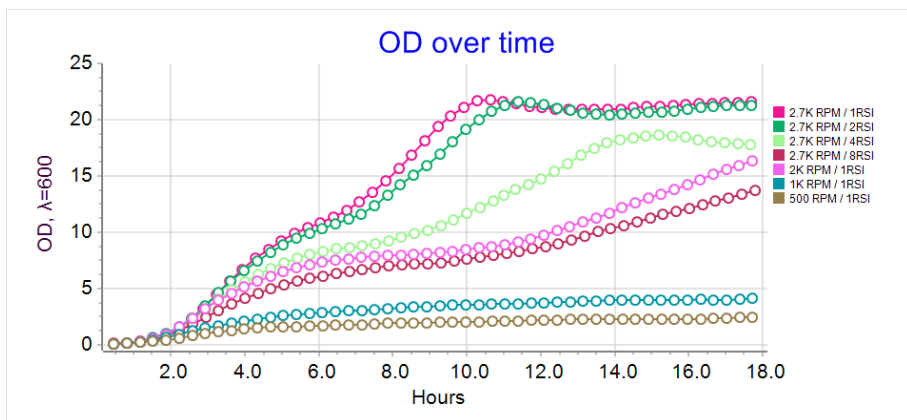
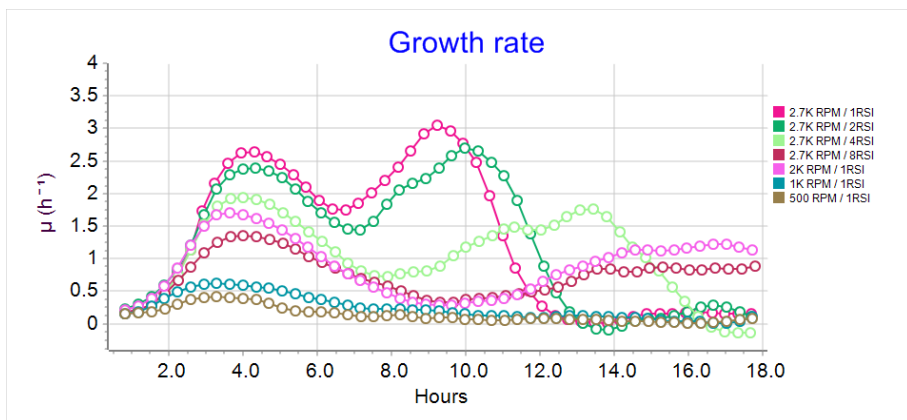

Figure 5. Influence of Interval of Reverse Spinning and RPM on the Growth kinetics ($\Delta OD_{\lambda=600nm}/\Delta t$) vs Time of fermentation (h).
Figure 6. Influence of Interval of Reverse Spinning and RPM on the Growth kinetics ($\Delta OD_{\lambda=600nm}/\Delta t$) vs Time of fermentation (h).
It is known that aeration affects the growth and growth rate of aerobic microorganisms. The RSI and RPM affect the rate of oxygen uptake in the bioreactor. Results obtained in fig. 5 and fig. 6 indicate that the maximum rate of cell division is detected at RSI of 1 s^{-1} at a speed of 2700 rpm. The increase of pause between reverse spins reduces cell growth rate and OD yield, reaching $\sim 44\%$ of the maximum value (RSI 1 s^{-1}), when RSI is 8 s^{-1} .
8.2.1 Legend of experiment (fig. 5.): Multi-channel bioreactor RTS-8 was used with 850 nm laser, volume of Terrific Broth (TB) in 50 ml Falcon tube was 10 ml, RSI 1, 2, 4, 8 s^{-1} , MI 10 min, RPM 2000, temperature 37°C , TPP Bioreactor vessels.